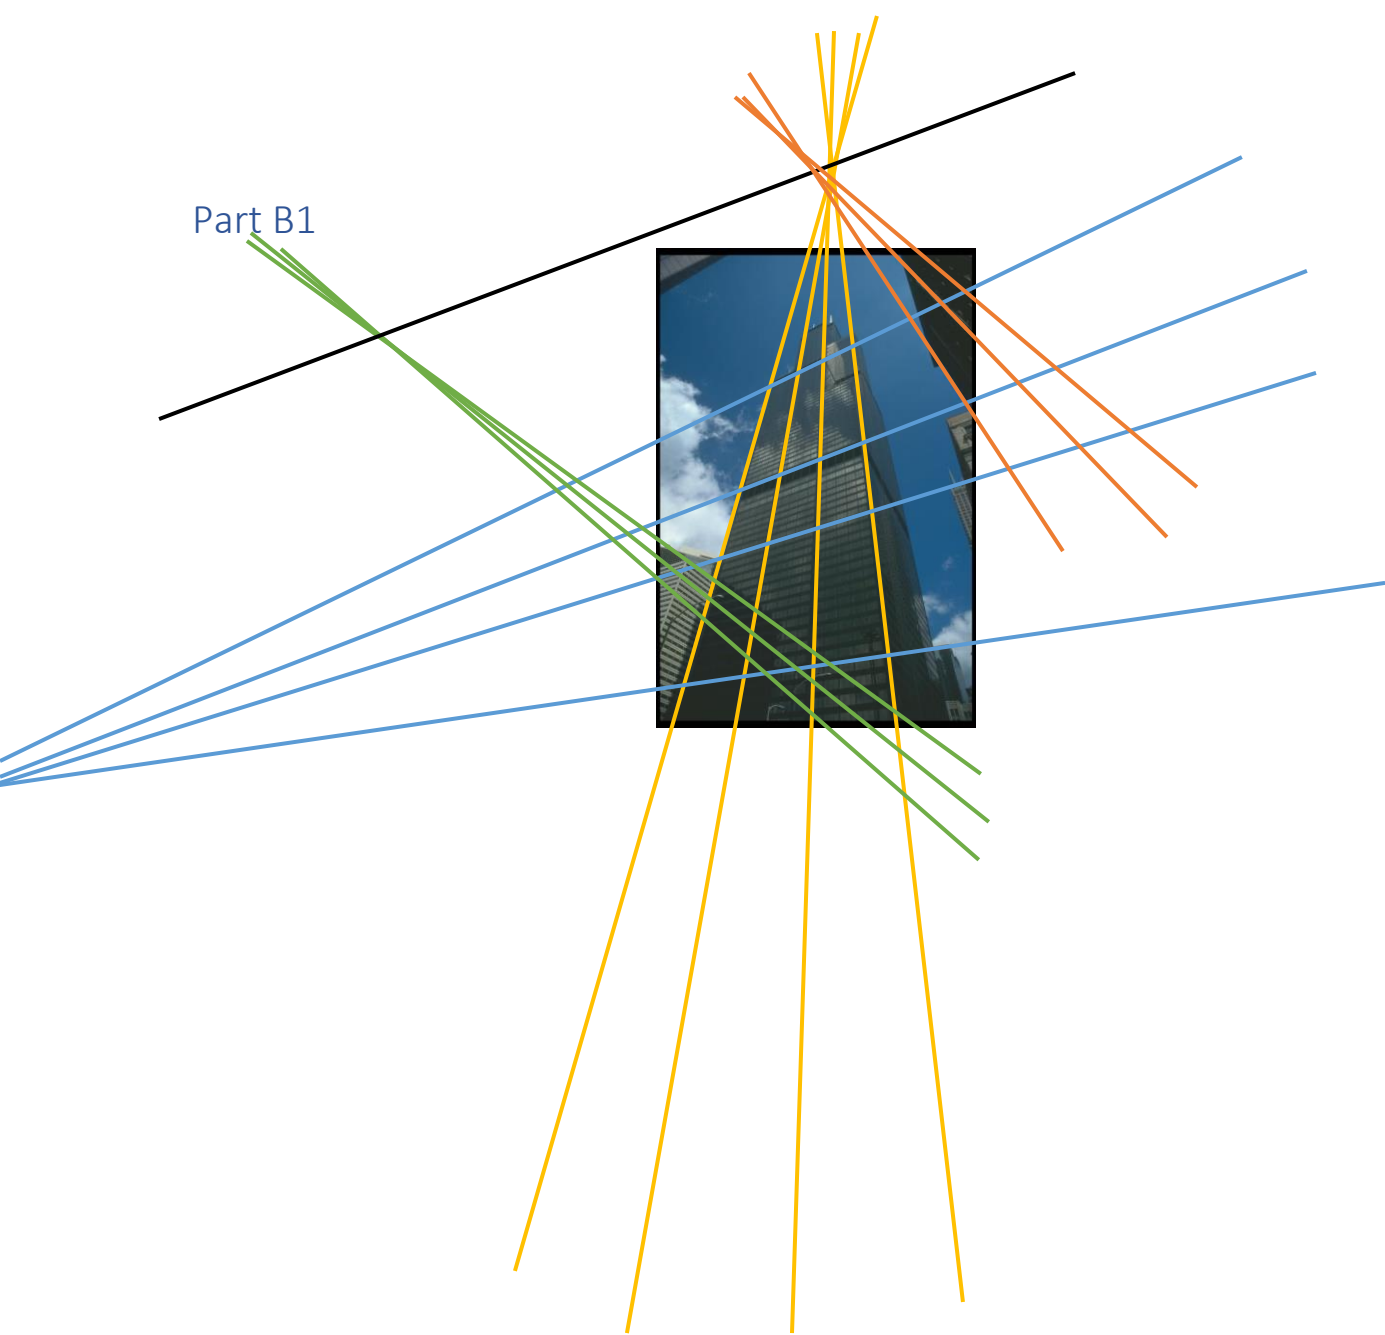

Figure 2. Image of a building with parallel lines, vanishing points and the horizon
2. The set of parallel lines indicated by orange, yellow and green are all on the same plane and their vanishing points are collinear. The line joining all 3 vanishing points forms one of the horizons for the image and is indicated in black in Figure 2.